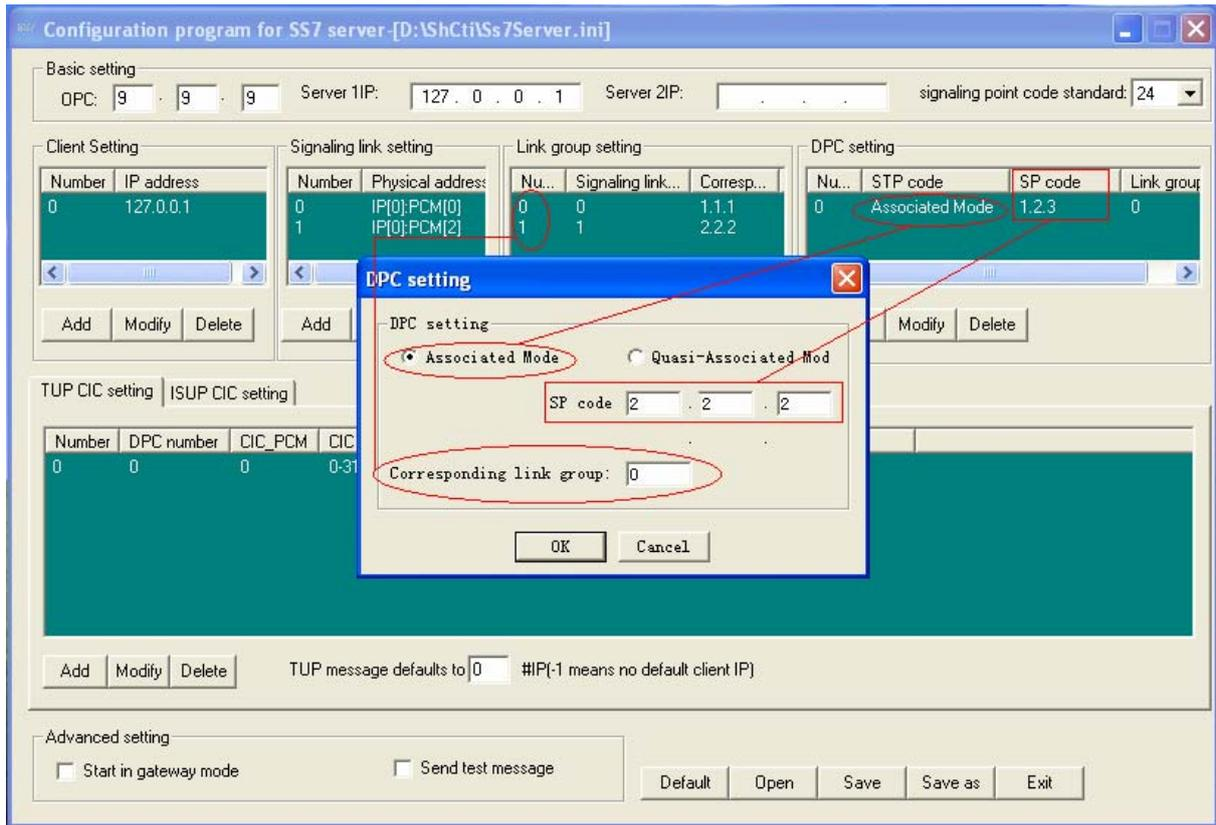

Figure 4-4 DPC Setting
- Associated Mode: Directly connecting the signaling links between two signaling points to transmit the inbetween signaling messages is called Associated Mode. See Figure 4-4.